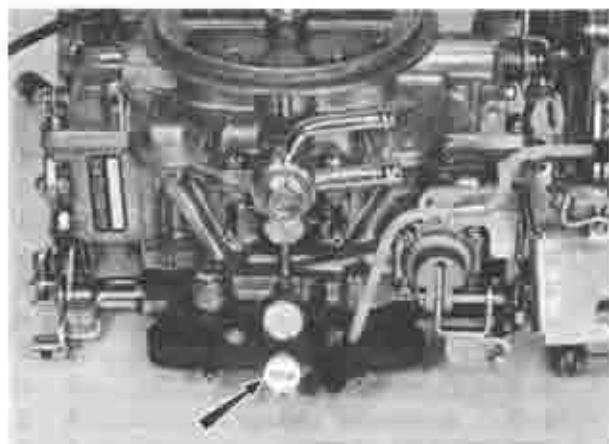

Fig. 4-2 Position of limiter cap
6. Install a limiter cap with the cap stopper positioned at the stopper pin as shown in Fig. 4-2.